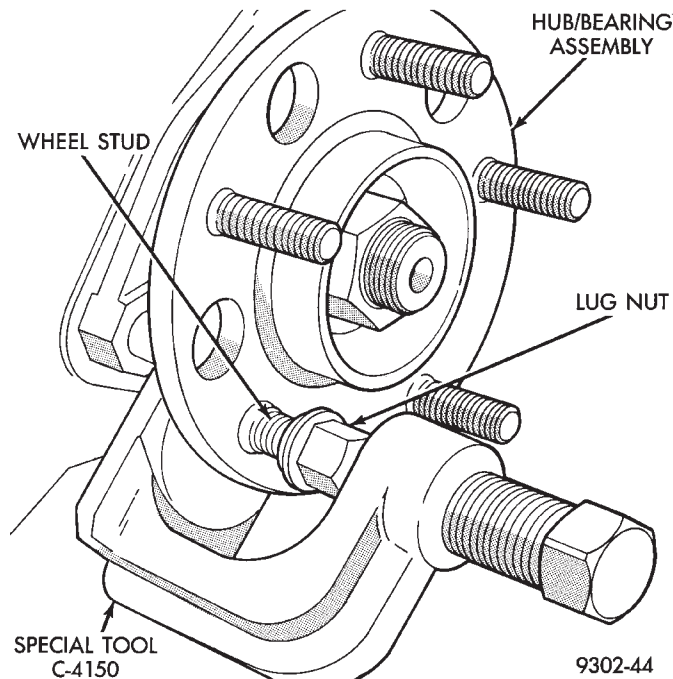

Fig. 3 Removing Wheel Stud From Hub And Bearing
(5) Install a lug nut on the wheel stud to be removed from the hub and bearing assembly (Fig. 3) so the
threads on stud are even with end of lug nut. Install Remover, Special Tool C-4150 on hub and bearing assembly flange and wheel stud (Fig. 3).